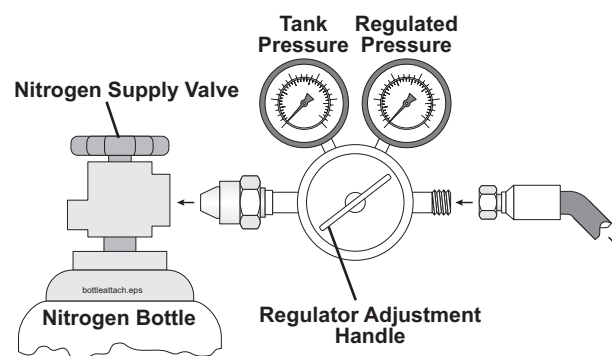

Figure 18
8. Ensure that the nitrogen bottle supply valve is firmly closed. Attach the high-pressure regulator to the nitrogen bottle, then attach the hose to the high-pressure regulator. Finally, attach the other end of the hose to the charge valve stem on the charge valve assembly (Figure 18).
9. Do not open the nitrogen bottle supply valve yet. Turn the regulator adjustment handle on the high-pressure regulator (Figure 18) counterclockwise to its minimum setting (closed).
10. Slowly open the nitrogen bottle supply valve (Figure 18). You will get a reading on the tank pressure gauge side of the regulator. If there is enough pressure in the nitrogen bottle to do the job, proceed to the next step.
11. Adjust the regulator adjustment handle clockwise, raising the regulated pressure. The accumulator will begin to fill. Continue filling until the charge valve assembly pressure gauge (Figure 18) reads the desired pressure of 1500 psi. Close the nitrogen bottle supply valve.